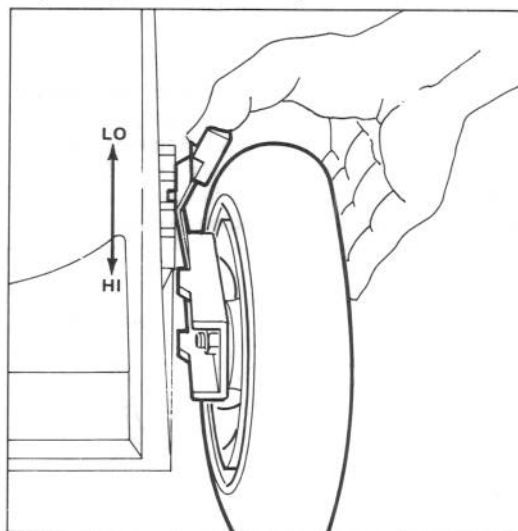

Figure 10
2. For easier adjustment, lift housing up so wheel is off ground. Squeeze adjusting lever toward wheel and move them to desired setting (Fig. 10). Assure pin on adjusting lever engages notch in mower housing wear plate. Adjust all wheels the same setting.
2. Model 22621 only — Move rear wheel height-of-cut levers to center setting. Wipe grease fittings with clean rag (Fig. 10). Install grease gun onto fitting and gently apply 1 pump of #2 Multi-Purpose Lithium Base Grease. Excess pressure may damage seals.